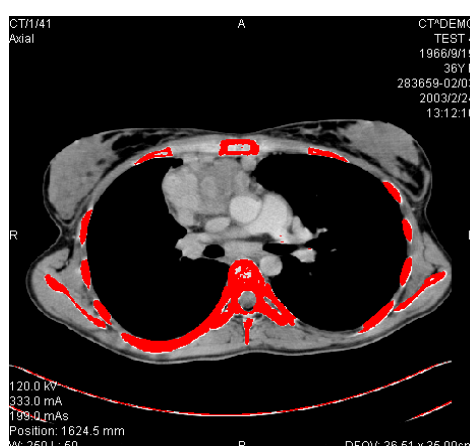

Figure 266 – Segmented image with threshold selection, contouring bones
4. Select the **Lower** and **Upper** grayscale values for the search process. All grayscale values within the selected threshold value range will be considered as matching. This can be seen in the current view – the matching regions are displayed in red while the remainder appears in black (see Figure 266).